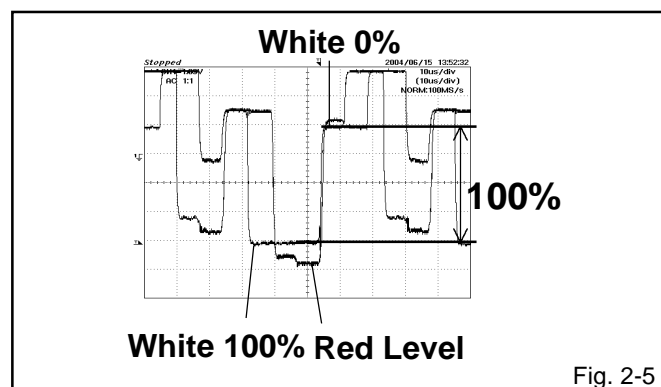

Fig. 2-5
6. Press the VOL. UP/DOWN button on the remote control until the red color level is adjusted to $120 \pm 10\%$ of the white level. **(Refer to Fig. 2-5)**